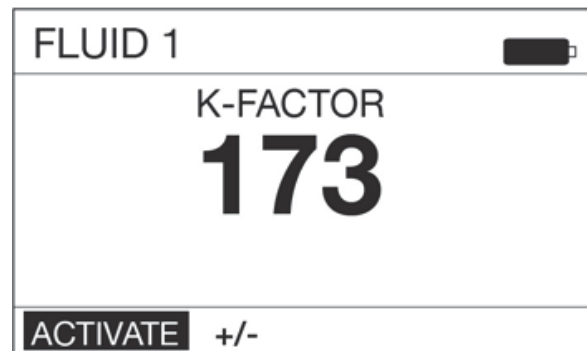

FIG. 59
2. If the meter recognizes the calibration voucher, the configuration screen shown in FIG. 59 displays.
3. The calibration k-factor screen shown in FIG. 59 displays. The number shown on the display is the k-factor the meter is currently using. After completing the calibration procedure this number may be the same or may be different than what is currently shown on the display.